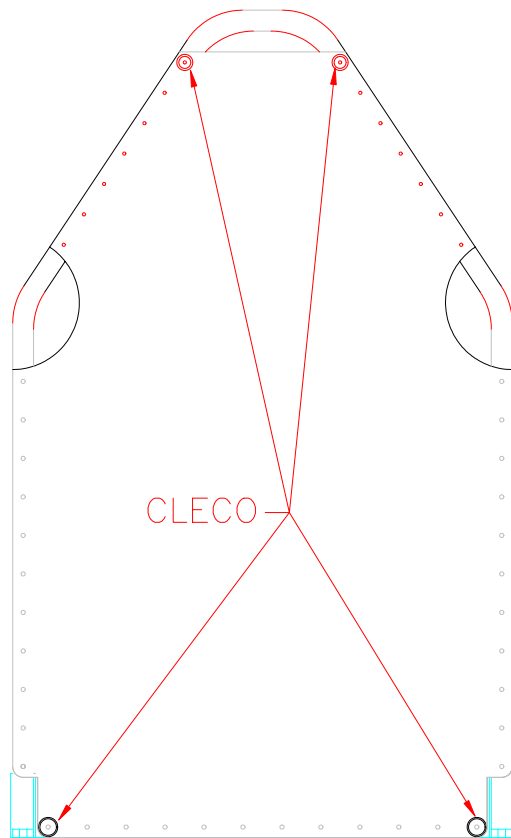

Figure 22.1.5
8) Place the upright seat panel (SA-47) onto the seat back frame (SA-100). Drill four #30 holes into the seat back frame. Cleco. Figure 22.1.5.